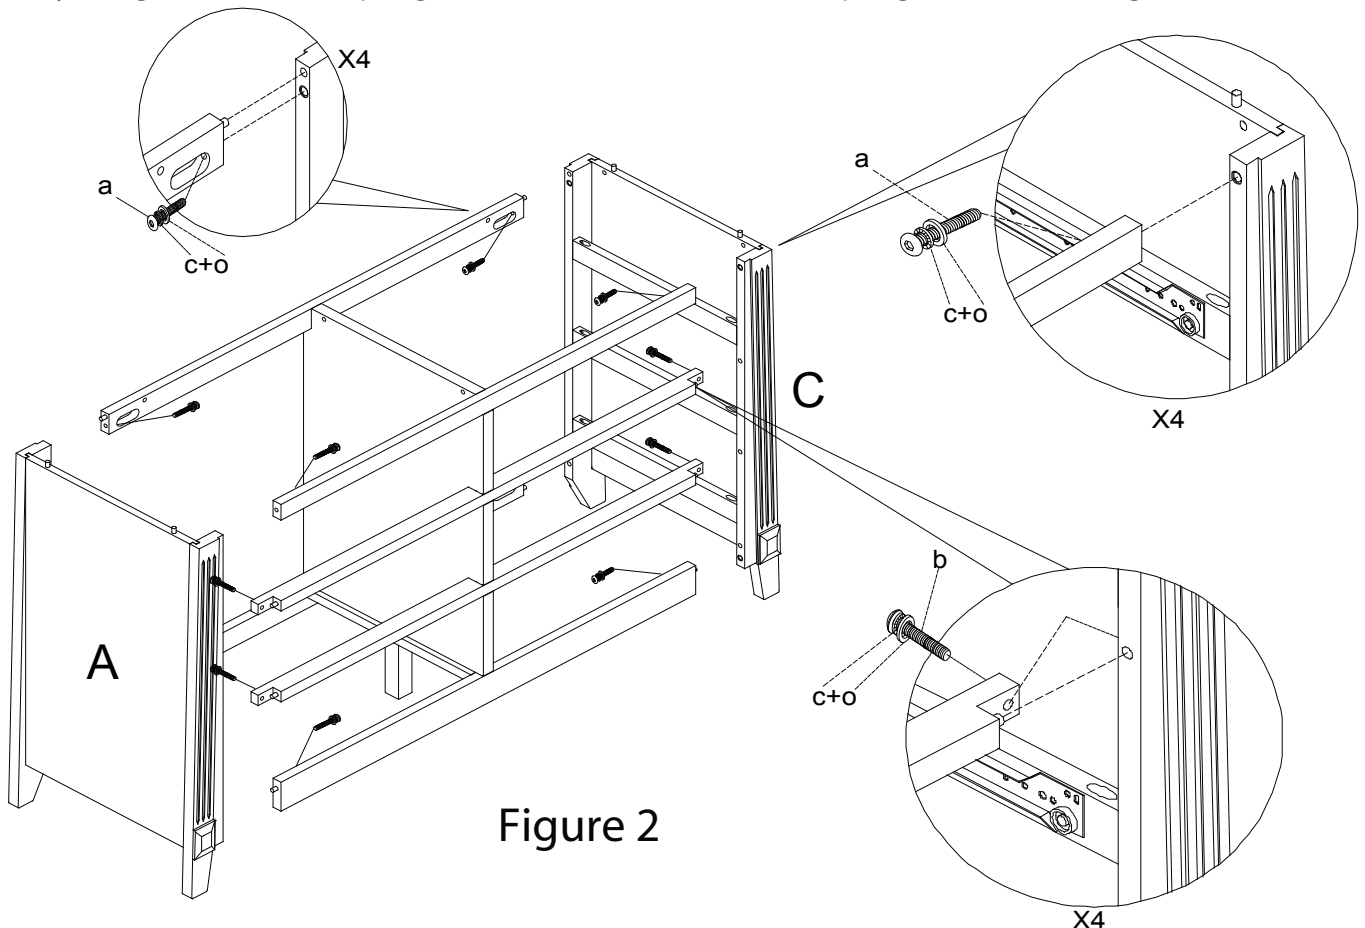

Figure 2
- ② Attach left side panel (A) and right side panel (C) to Front Top rail (D) & Front Middle rail (E) & Front bottom rail (F) & Rear Top rail (G) and Rear bottom Rail (H) by using 8 Bolts (a) & 8 Spring washer (c) and 4 Bolts (b) & 4 Spring washer (c) as Figure 2.
2. Slide Drawer Bottom (R4) and into drawer Bottom Support (R5) assembly. *Figure 2*